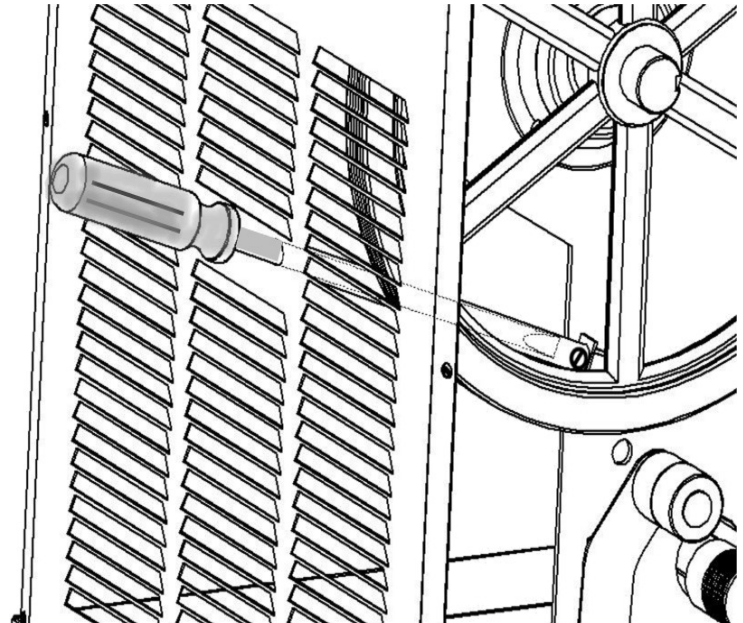

Fig. 27
2. Using a 12" straight flat blade screwdriver, turn the mechanical consistency (torque adjustment) screw (Fig. 27) clockwise to make the product harder or counterclockwise to make the product softer.